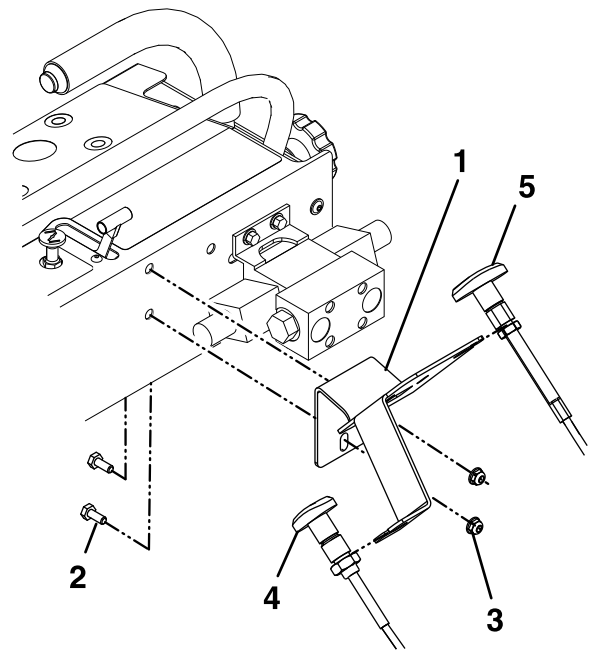

Figure 5
5. Install the speedometer mount bracket using two 1/4-20 x 5/8 inch hex screws and two 1/4 inch nyloc nuts as shown in Figure 5.